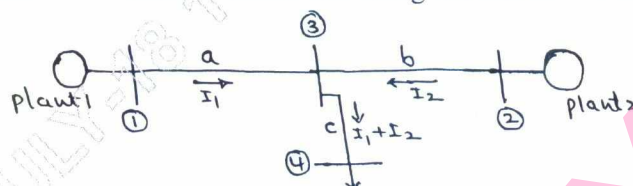

Fig.Q6(a)
- 6 a. For the one line diagram shown in Fig.Q6(a) : $I_1 = 1.0 \angle 0^\circ$ p.u. ; $I_2 = 0.8 \angle 0^\circ$ p.u.